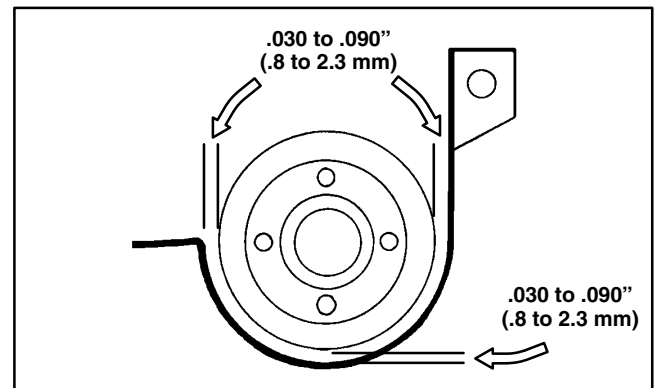

Figure 4
2. Secure belt guide (item 3) to machine with fasteners loosened during belt removal. After guide is secured, there should be .030" to .090" (.8 to 2.3 mm) clearance between the guide and the drive belt (Fig. 4).